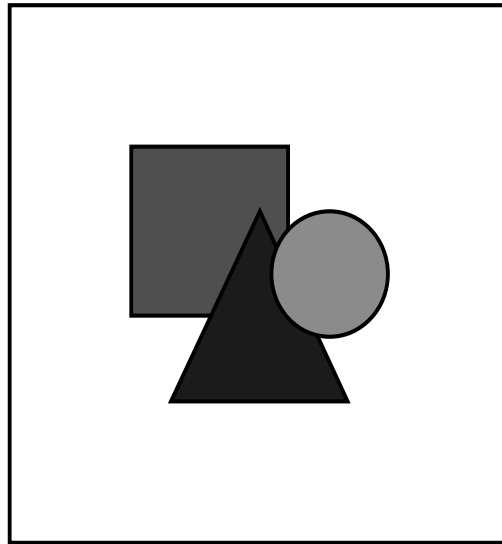

Figure 5-50. The default **Material Library** that comes with THERM has only "Protected" materials that cannot be edited.
**Definitions** to view the characteristics of any of the materials, but because the predefined materials are protected from editing (they are grayed out), you cannot change any of the values, as shown in Figure 5-50. However, you can make new materials in this library, as explained in the following steps.